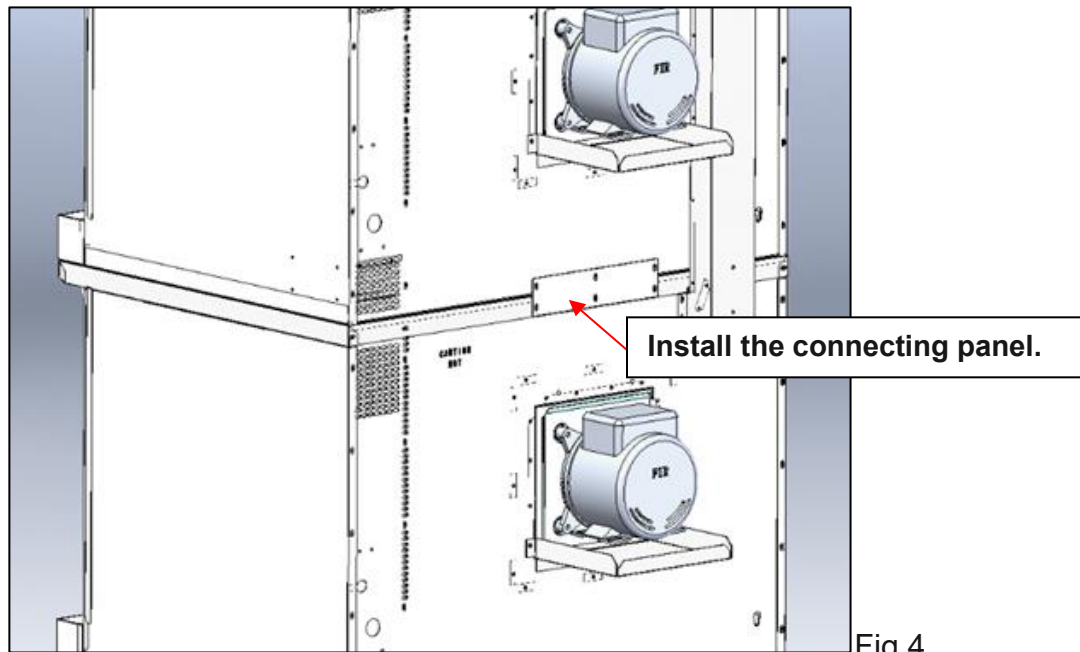

Fig.4
1. Fix the intersection area between the top and bottom appliance with a connecting panel as indicated in Fig.4.